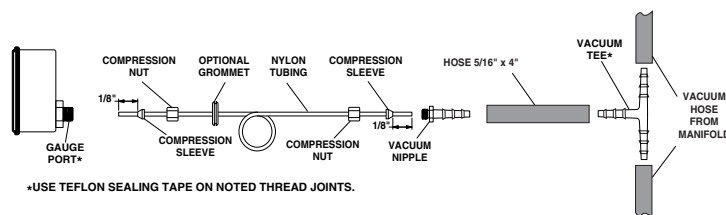

Figure 5. Boost/Vacuum Gauge "T" Fitting Option Connection
- On vehicles without a tap on intake manifold, locate an existing vacuum line where a "T" fitting can be utilized and follow the directions for "Option Two - Existing Vacuum Line Connection" (Figure 5).
See Figure 5 and follow the instructions below: